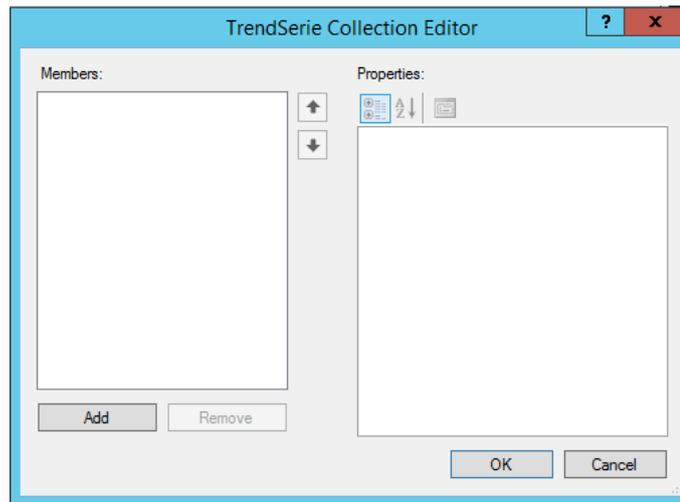
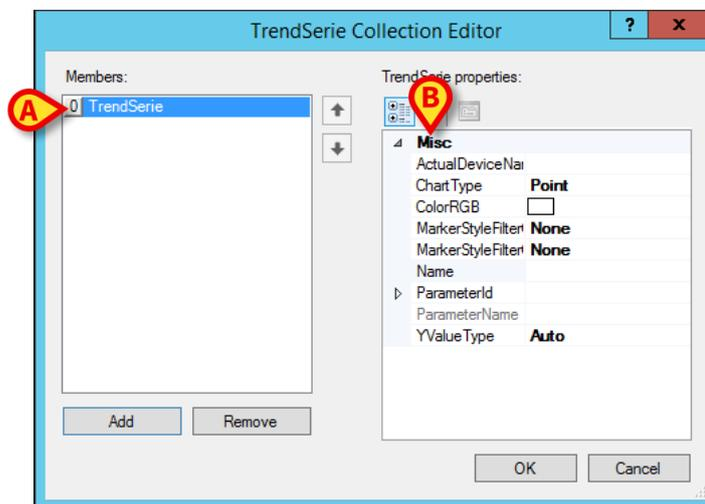

Fig 64
Fig 65
11. Define here the Chart height and title, the YFormat, YMax and YMin (all free text fields). Click the “Series” row to further define the chart features. A button is displayed on the right. Click the button. The following window opens (Fig 64).
12. Click the **Add** button (Fig 64 **A**). A new Member is this way added (Fig 65 **A**).
The item properties will be displayed on the right (Fig 65 **B** - empty at the moment).